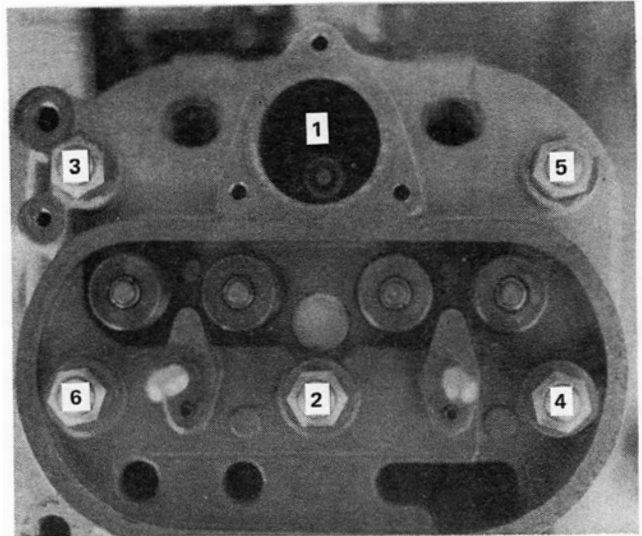

Figure 39
32. Tighten the cylinder head nuts in the proper sequence, as shown in Figure 39. Tighten the head nuts in three steps progressively. Finally, tighten the head nuts to the specified torque on page 30.